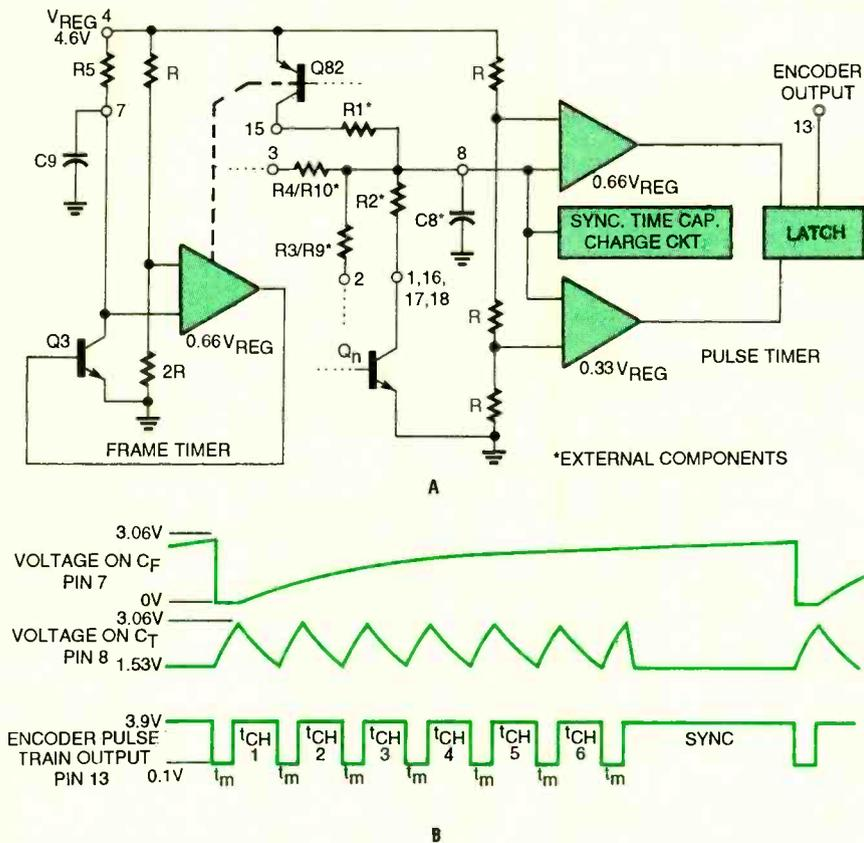

Fig. 3. Here's a simplified diagram of the LM1871's internal timing circuits.
Fig. 3. This infrared transmitter (A) and receiver (B) pair can monitor a passageway. If the modulated IR beam between the circuits is broken, the buzzer will sound.